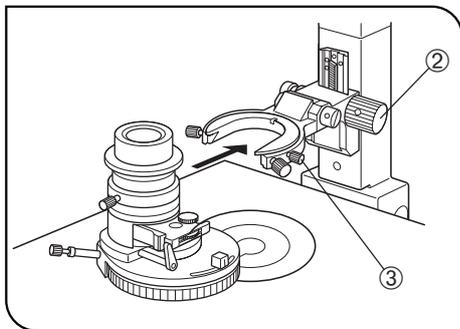

Fig. 96
1. Rotate the condenser height adjustment knob ② to raise the condenser to the upper limit position. (Fig. 96)
2. Loosen the condenser clamping knob ③. (Fig. 96)
4. Tighten the condenser clamping knob ③. (Fig. 96)